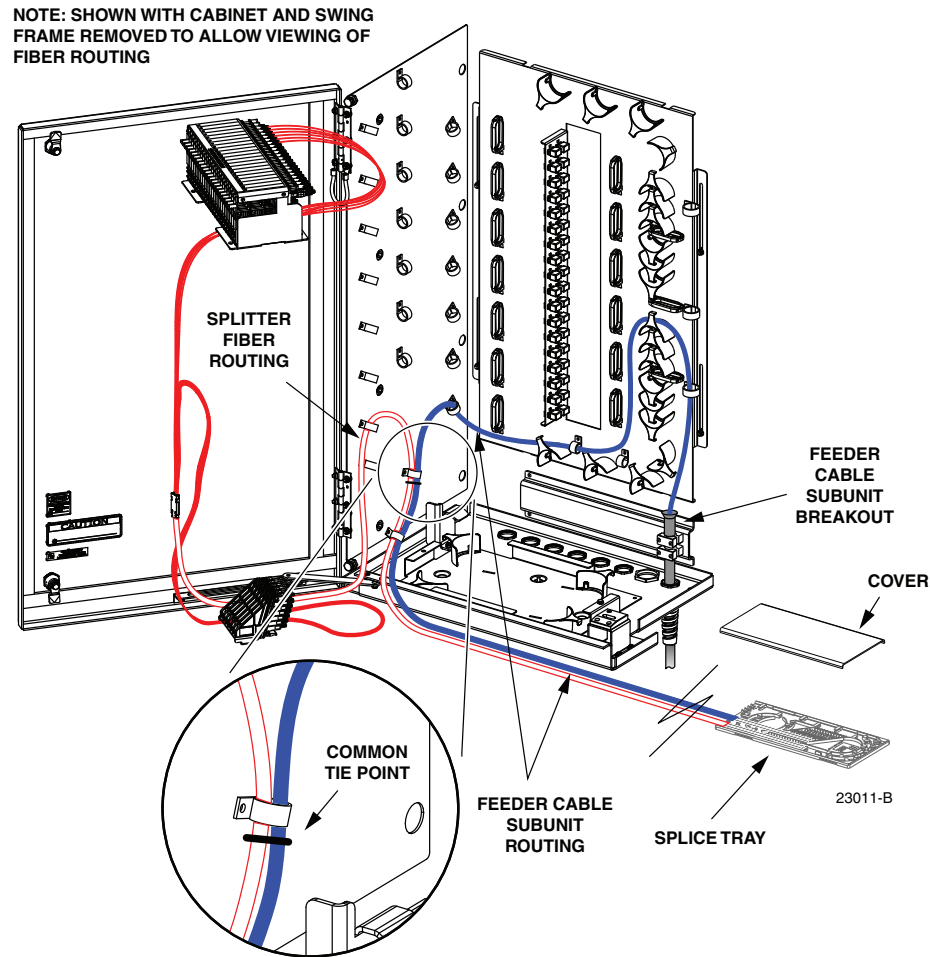

Figure 43. Feeder Fiber Routing To Splice Tray - Stranded Cable
4. Beginning at the feeder cable subunit breakout point shown in Figure 43, route the feeder cable fibers to the intersect point with the splitter fibers.